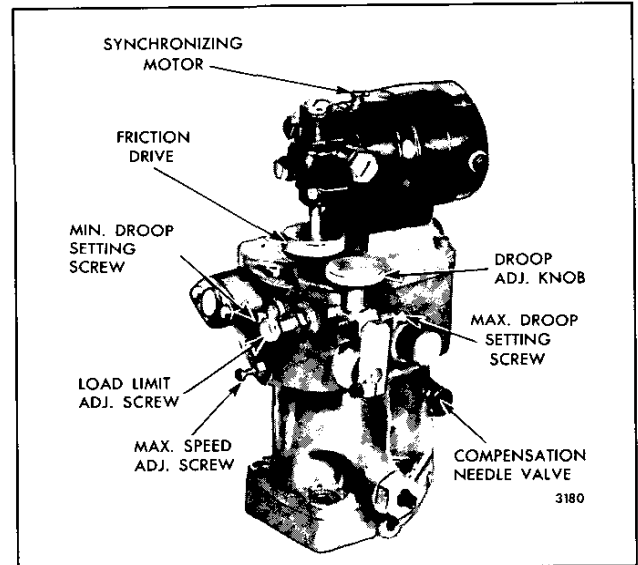

Fig. 2 - Bodine Synchronizing Motor Mounting
Refer to Fig. 2 and proceed as follows:
- Bodine motors (Fig. 2) are mounted horizontally on the governor covers and use a 90 degree offset drive connected through a reduction gear on the motor and a friction drive.